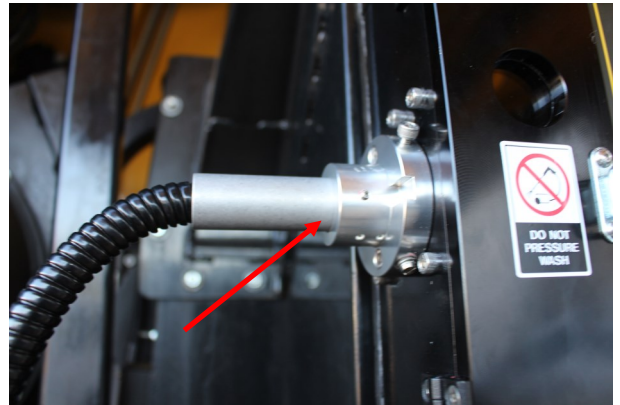

Figure 2.8 Sample Head—Fibre Optic connection.
- 1) Insert the Fibre Optic Cable into the Fibre Optic Sample Head probe as shown in figure 2.8. Insert the Fibre Optic Cable so that the keyway aligns to the probe M4 grub screw. Push the Fibre Optic cable inwards so the Fibre Probe bottoms out and the key way is not visible. Tighten the M4 grub screw on the barrel of the Fibre Optic Probe. Apply a bead of silicon to the where the Fiber Optic cable and probe join as shown by the arrow in figure 2.8.